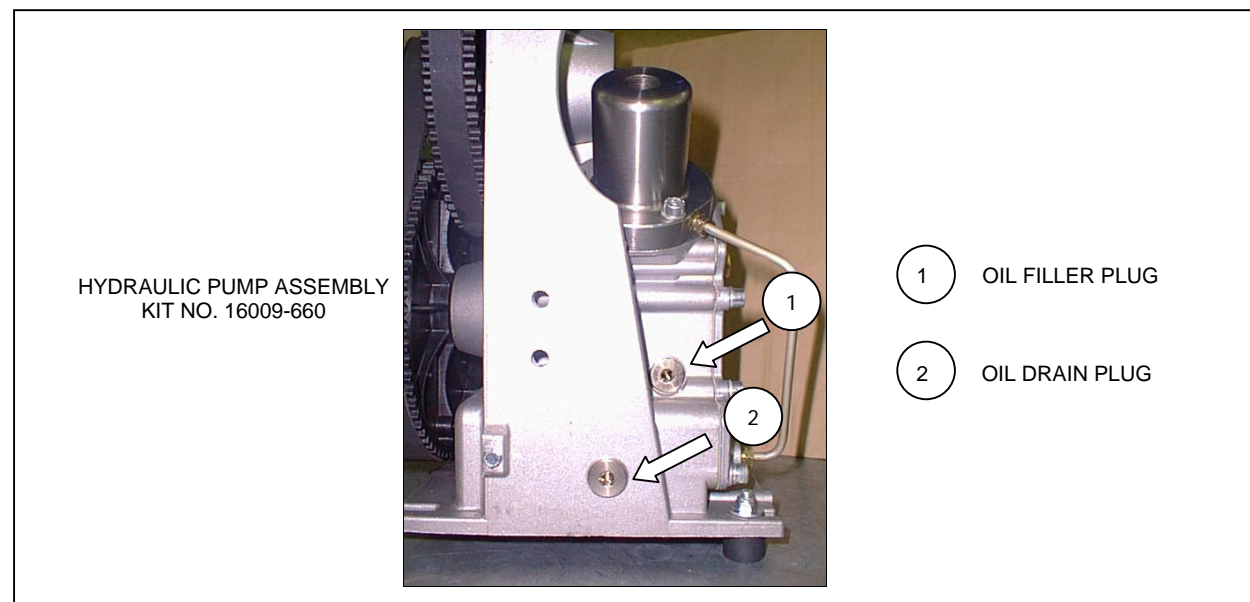

Figure 33 – RIGHT SIDE OF THE HYDRAULIC PUMP
4. Unscrew the oil drain plug (No. 2 in Figure 33) using a 6mm hex key wrench.
7. Remove the oil fill plug (No. 1 in Figure 33) using a 6mm hex key wrench.